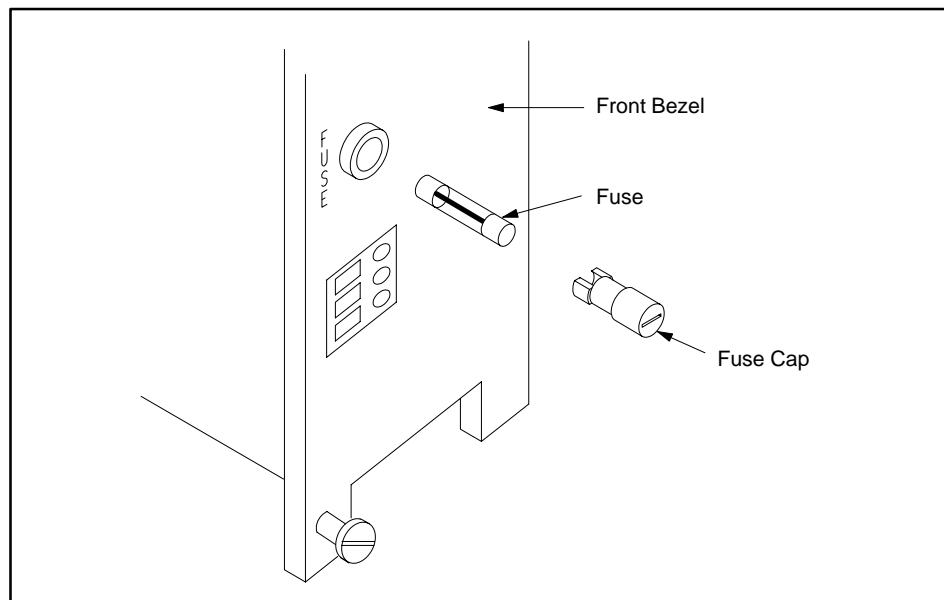

Figure 9-2 Example—Replacing Power Supply Fuse
8. Verify that the fuse (located on the bezel) has not opened. Follow steps 9. through 12. to replace the fuse, if necessary, with the appropriate fuse. See Figure 9-2.